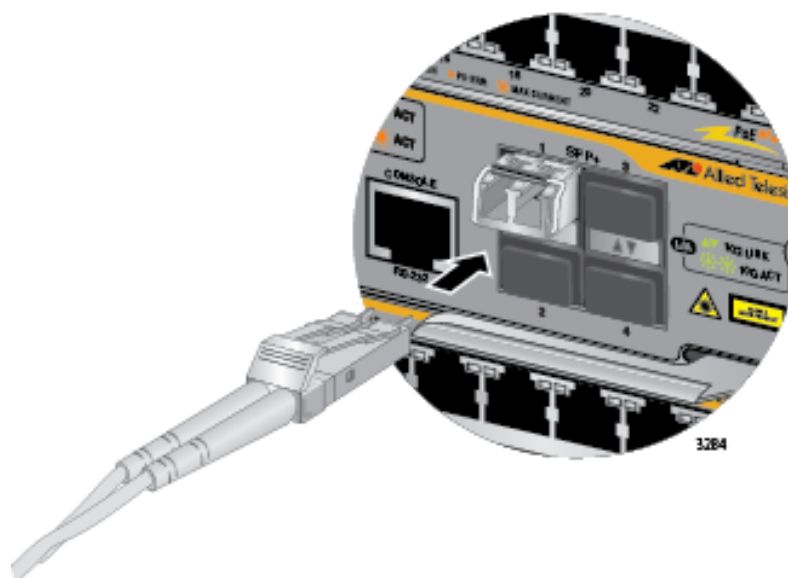

Figure 180. Connecting a Fiber Optic Cable to a Stacking Transceiver
6. Connect the fiber optic cable to the transceiver, as shown in Figure 180. The connector on the cable should fit snugly into the port, and the tab should lock the connector into place.